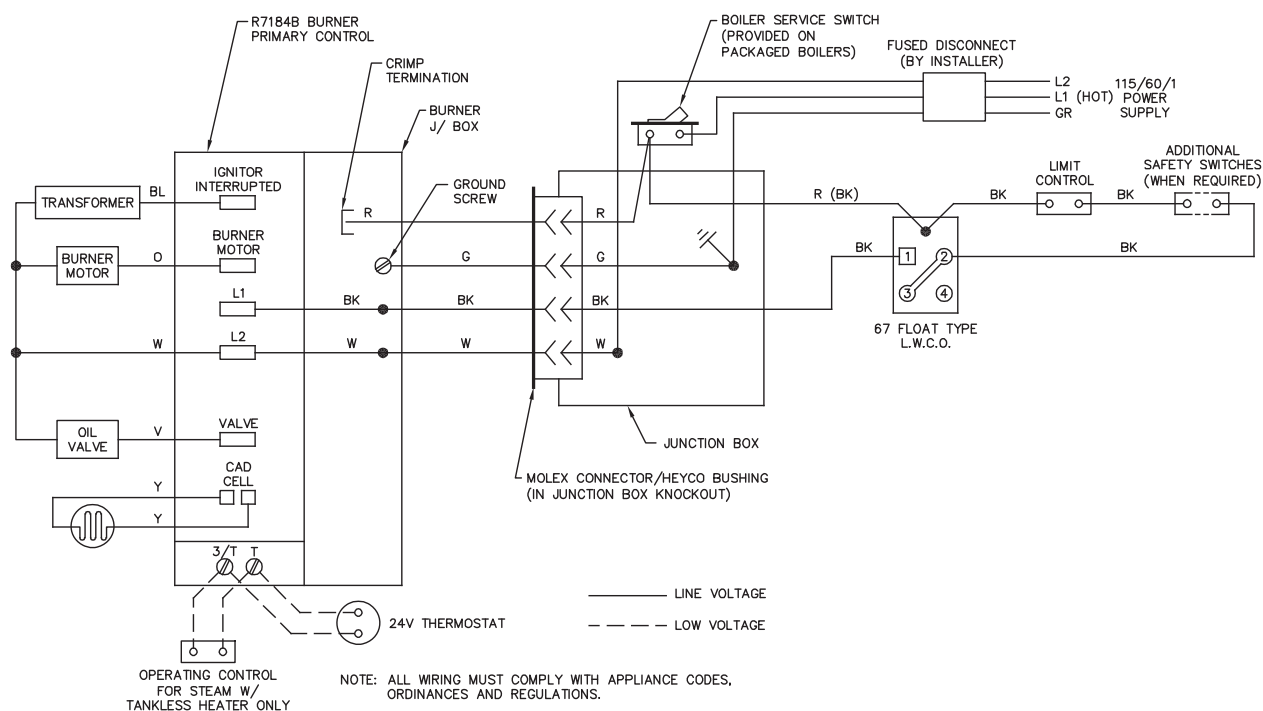

Figure 4.6: Steam with Float Low Water Cut-off
- Figure 4.6 - Steam Boilers with Float LWCO